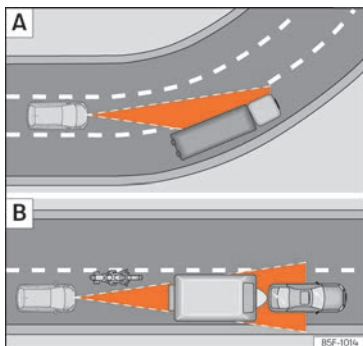

Fig. 119 [A] Vehicle on a bend. [B] Motorcyclist ahead, out of range of the radar sensor.
The ACC may not detect the vehicle in front on a curve, or may regulate the distance from vehicles in other lanes >>> Fig. 119 [A].
- Vehicles that are not aligned while driving or that are outside the sensor's detection area, such as motorcycles >>> Fig. 119 [B].